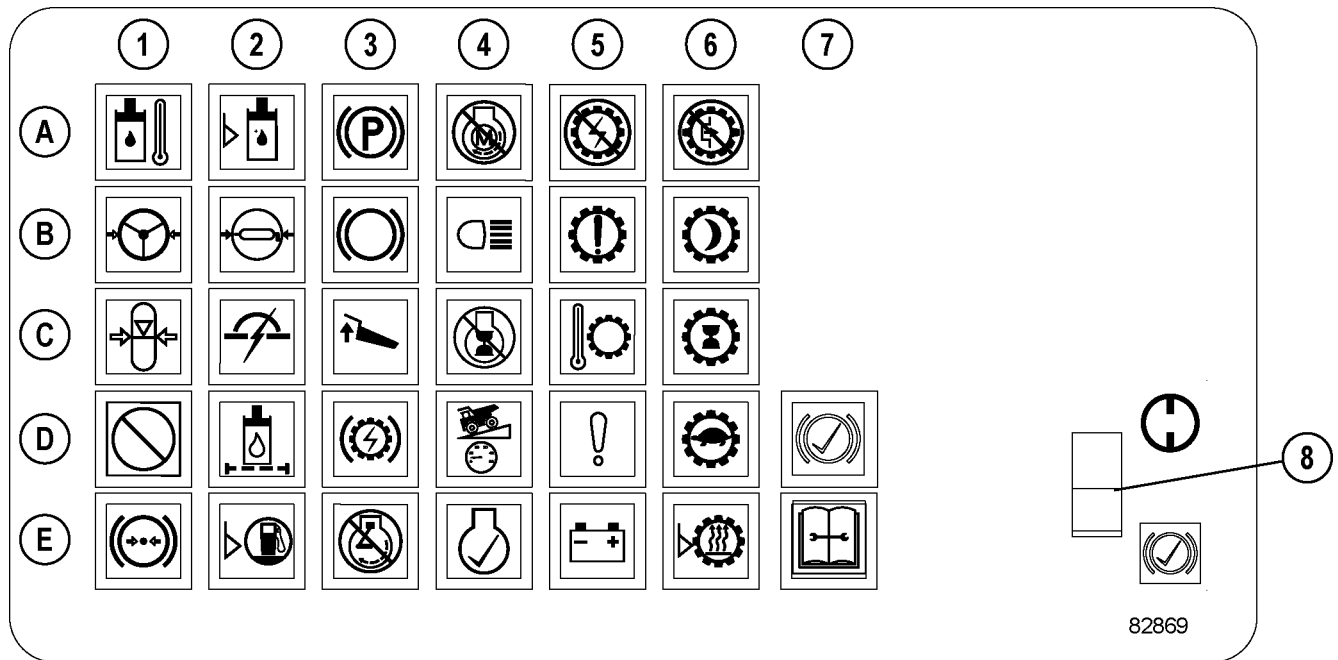

FIGURE 32-9. OVERHEAD STATUS / WARNING INDICATOR
Amber indicator light (B6, Figure 32-9) in the overhead panel will illuminate when the rest mode is activated.
**NOTE:** Do not use the lamp check switch while the engine is on. Pressing this switch while the engine is on will cause false electrical system faults. Warning light (D5, Figure 32-9) will illuminate and engine shutdown is required to turn it off.
Backup light switch (18, Figure 32-8) allows the backup lights to be turned on for added visibility and safety when the directional control lever is not in the REVERSE position. When the switch is in the ON position, the backup light indicator (B4, Figure 32-9) in the overhead panel will be illuminated.
Red indicates high oil temperature. Continued operation could damage components in the hydraulic system. Warning lights (A1) and (E1, Figure 32-9) in the overhead panel will illuminate when the temperature exceeds a certain level (when the needle enters the red zone). If this occurs, the operator should safely stop the truck, move directional control lever to PARK and operate the engine at 1200 - 1500 rpm to reduce system temperature.
Refer to Figure 32-9 and the descriptions below for explanations of the symbols. Location of the symbols is described by rows (A - E) and columns (1 - 6).